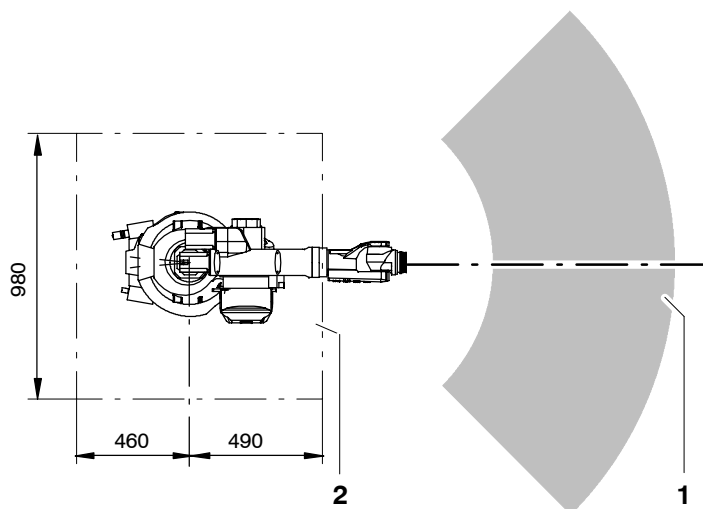

Fig. 45 Orientation of working envelope and concrete foundation
- (3) Mark the position of the manipulator in relation to the working envelope (Fig. 45/1) on the concrete foundation (2) and bring the manipulator to the installation position.
- (4) Align the manipulator horizontally.
The intended installation position of the manipulator, i.e. the correct orientation in relation to the working envelope (Fig. 45/1), must be taken into account when drilling the holes.